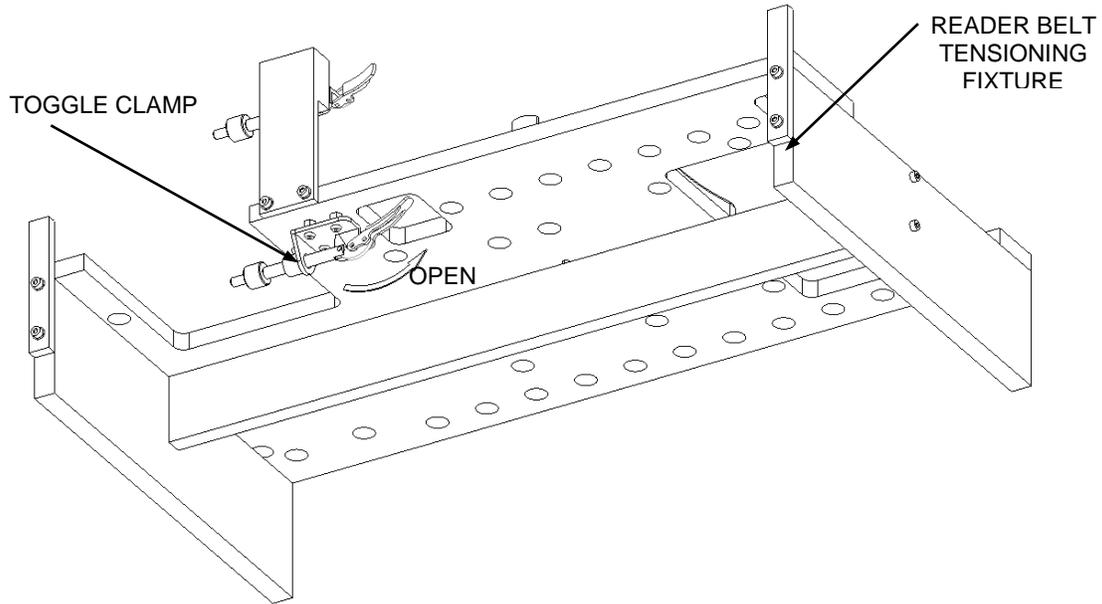

Figure 12-51: Belt Tensioning Fixture
1. Place the Reader chassis assembly on the Belt Tensioning Fixture (DS2FIX010000) by pulling back the Lower Toggle Clamp to the open position and place the Reader Chassis Assembly into it (Figure 12-51).